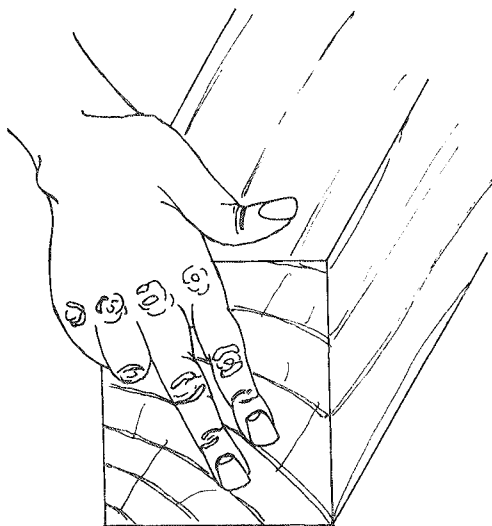

Fig. 3.27 Poor feeding method.
- *Holding the ends* – when the material is being fed, two fingers (sometimes only one) are placed on the end of the timber and used to assist in feeding by pushing (**Fig. 3.27**). Sometimes a machinist may argue that the timber is sticking, but this is usually as a result of too much pressure. If this is not so and the timber really is sticking, the beds can be lightly rubbed with wax